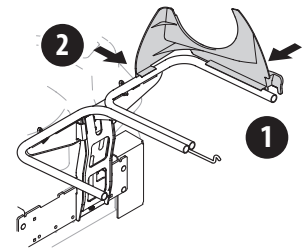

Figure 6
1. Snap the plastic upper chute support in place by first clipping the side portion onto the bagger support rail (1) of Figure 6.
2. Snap the front side of the chute support to the rail (2), as shown in Figure 6.